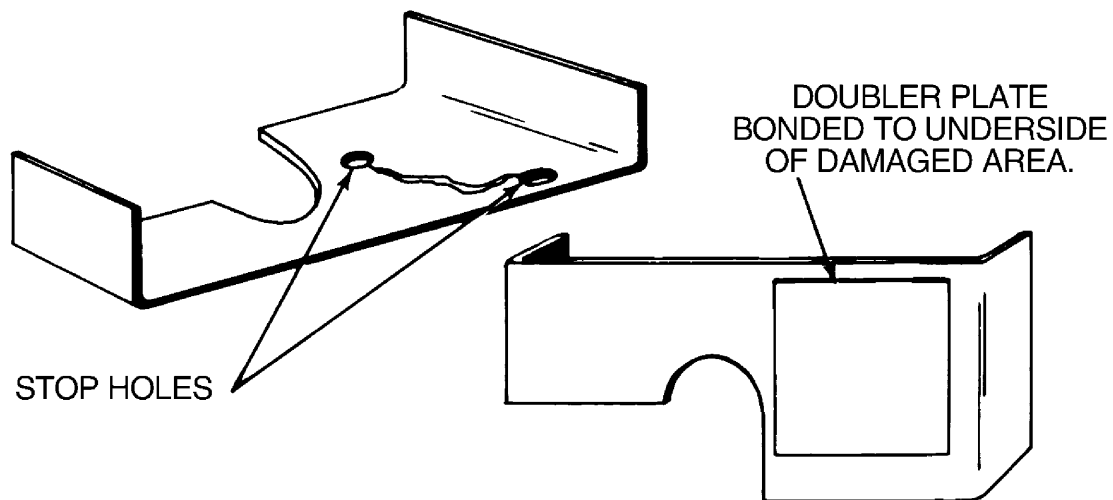

Figure 4-18. Repairing of Cracks
- d. Cracks: (Refer to Figure 4-18)